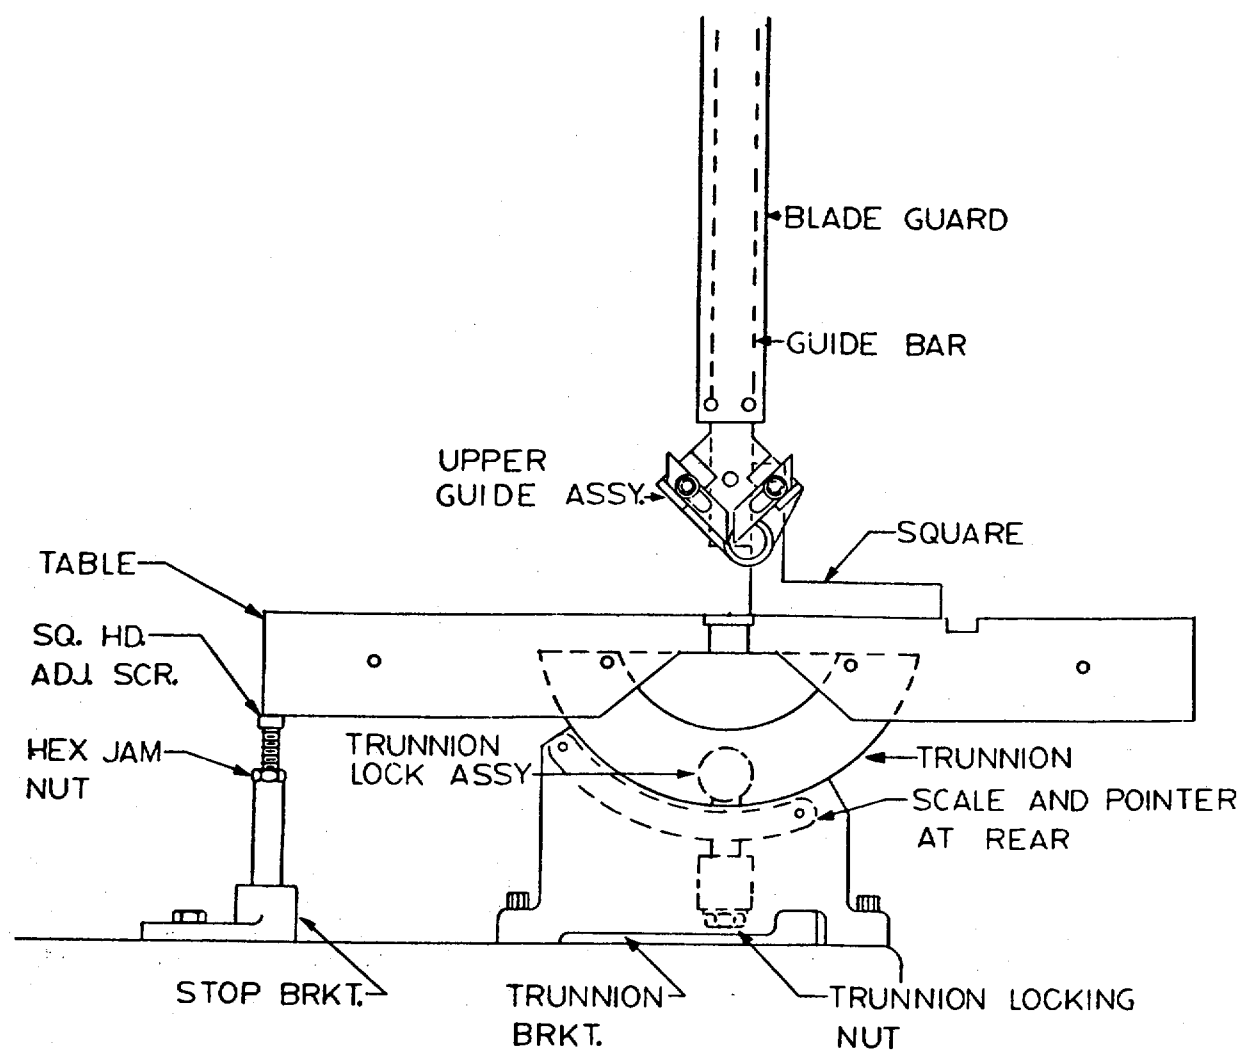

Figure 3. Table Stop Adjustments,
**TABLE STOP ADJUSTMENT:** The table stop is factory set to position the table square with the blade and should not need adjustment. However, if the band saw is realigned for any reason, it will be necessary to reset the stop. Unlock the jam nut and screw the jackscrew a few turns down into the bracket so as to allow the table to go past the 0° point. Adjust the guide bar to be close to the table with the trunnion unlocked and with a combination square, or similar gauge set on the table with the blade against the post; adjust the table to be square with the post using the jackscrew in the stop bracket. Relock the jam nut, swing the table away from and then back to the stop. Tighten the trunnion lock. Recheck to see if the table is still square with the guide post. Readjust if necessary. Check the position of the scale pointer and reposition if necessary (fig. 3).